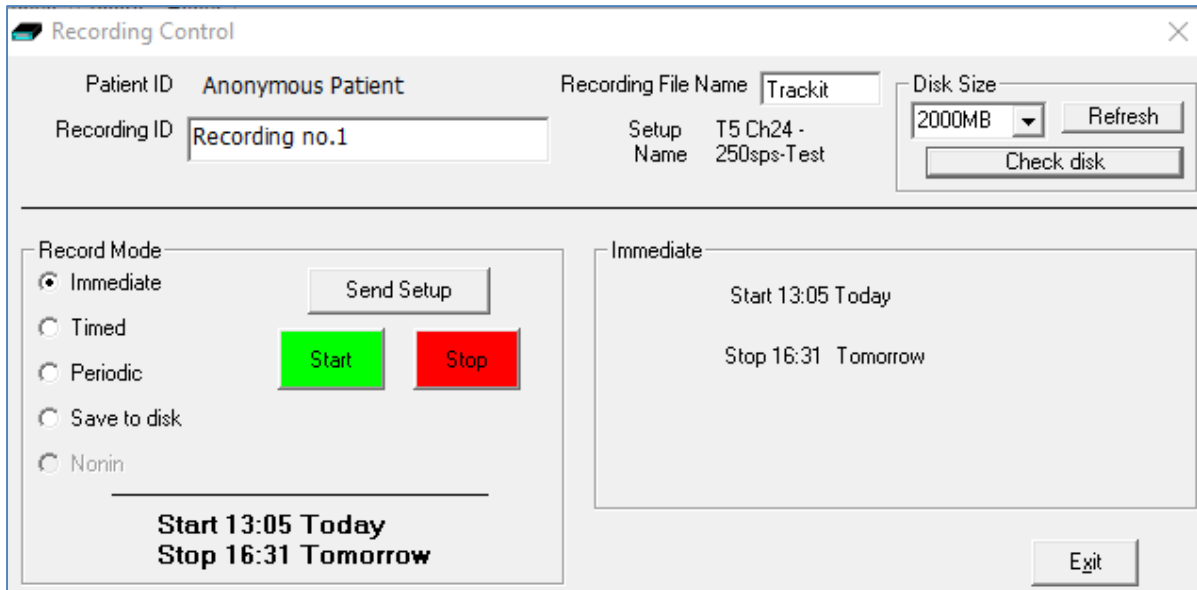

Figure 25: Recording Control panel
8. The Recording Control panel (Figure 25) will appear.
Click on the ‘Setup Recording button’ in the Trackit Control Panel to open the Recording Control dialog box (Figure 25). The Recording Control panel is also displayed by pressing the “Amb Rec” or “Dual Rec” button on the Home toolbar.
Immediate: the recording starts as soon as the Start button is pressed (Figure 25). Recording finishes when the Trackit is turned off, when the disk is full or when the recording is stopped.